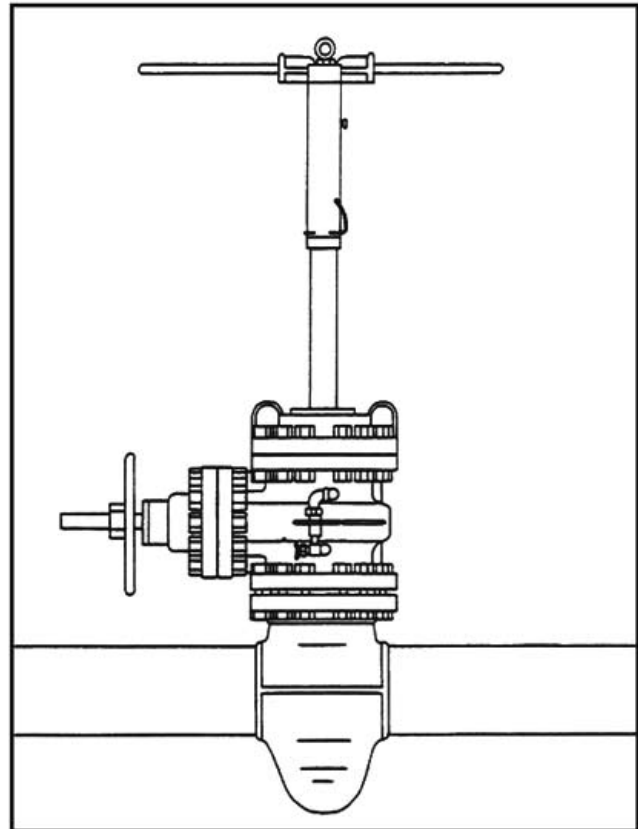

FIGURE 7
8. Attach completion machine to gate valve. **Figure 7.** It is not necessary to use all the bolts at this point.